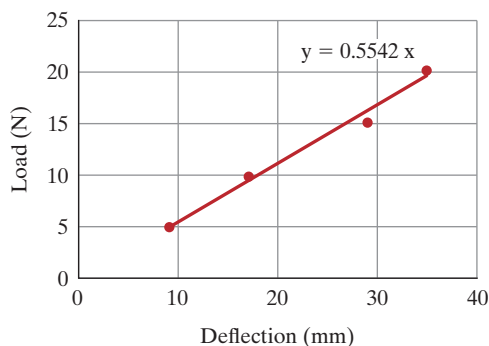
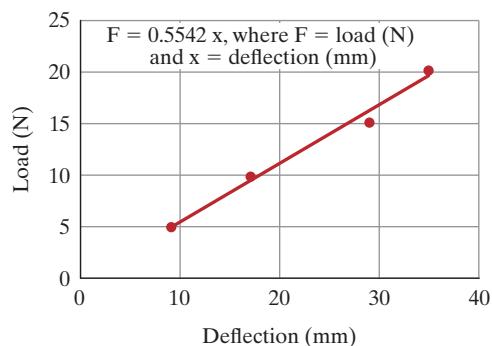

FIGURE 14.31
FIGURE 14.32
After you press close, you should see the equation $y = 0.5542x$ on the chart, as shown in Figure 14.31. We have edited the variables of the equation to reflect the experimental variables as shown in Figure 14.32.
To edit the equation, left-click on the equation ($y = 0.5542x$) and change it to read $F = 0.5542 x$, where F = load (N) and x = deflection (mm), as shown in Figure 14.32.